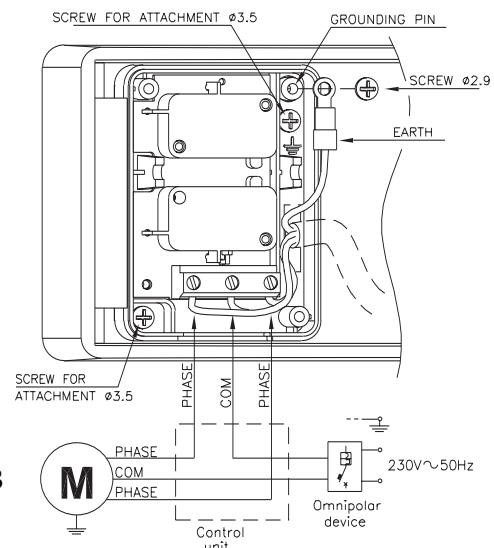

fig. 3
- insert the control panel inside the safety housing as demon strated in fig.3 and attach it with the two screws contained in the kit
- hook up the electrical connection as shown in fig. 3; attach the ground terminal to the alu minium pin